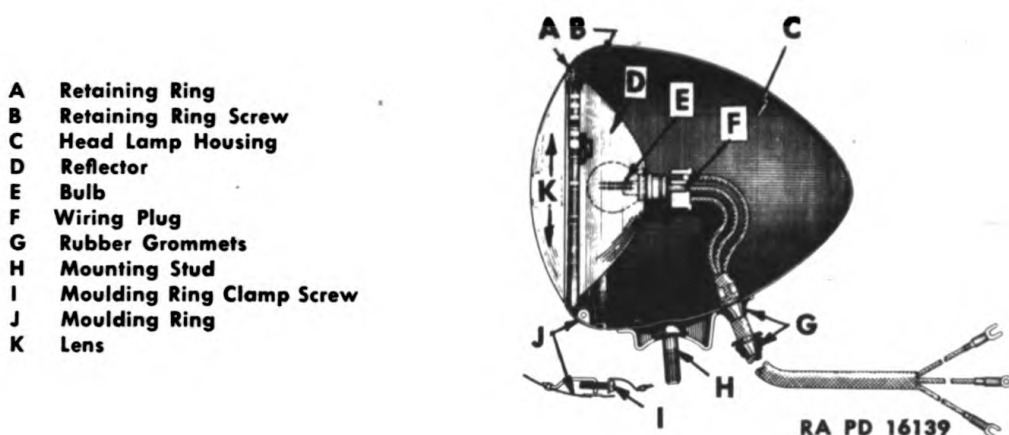

Figure 121—Head Lamp Assembly
a. Head Lamp Assembly Removal (Fig. 121)
(1) Open bow hatch cover. Loosen wing nuts on hold-down bolts, swing bolts away from cover clamps and raise cover. From inside bow compartment, disconnect wiring at junction block terminals and remove mounting stud nut at each lamp.
(2) Loosen rubber grommet from bow deck plate so wiring can be pulled through plate. Lift each head lamp to free mounting stud from hole in mounting plate and remove lamp.
b. Head Lamp Assembly Installation—(Fig. 121.)
(1) Put each head lamp into position with mounting stud inserted through hole in mounting plate. Thread wiring through hole in deck plate and press rubber grommet into place in plate.
(2) Connect wiring carefully to junction block terminals as shown in wiring diagram in Section XVIII, "Electrical System—Wiring." Install mounting stud nut at each lamp mounting stud inside bow compartment and then adjust head lamp aiming as outlined under Para. 164. Close bow hatch cover, swing hold-down bolts to engage cover clamps and tighten wing nuts on hold-down bolts.
(1) Remove moulding clamp screw at bottom of lamp lens and remove moulding ring. Remove three screws which attach sealed beam unit retaining ring to lamp housing and remove ring. Pull sealed beam unit out of housing and disconnect prongs of bulb from wiring plug. (Refer to Fig. 121.)